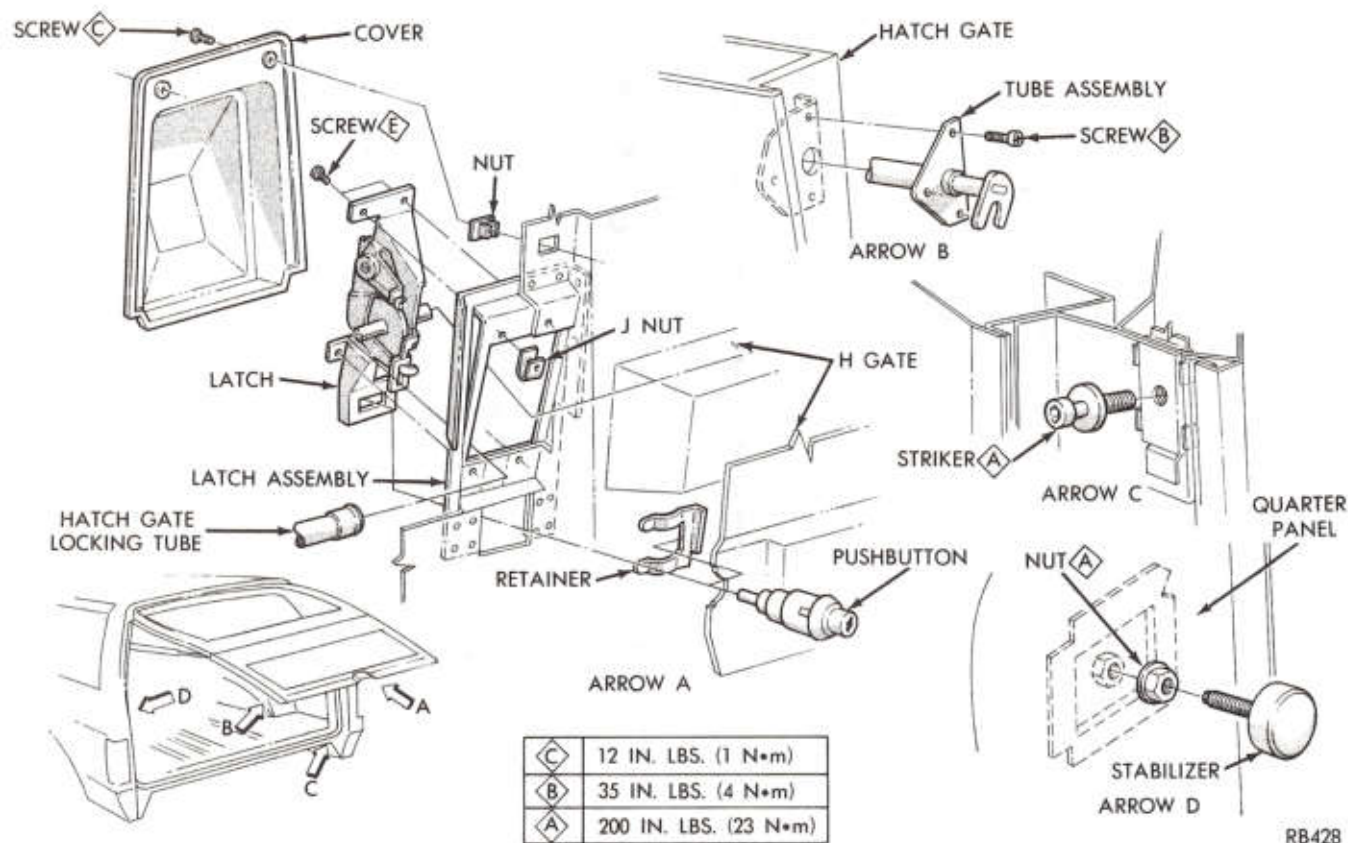

Fig. 16—Liftgate Latch and Striker
LATCH LOCK ASSEMBLY (Fig. 16)
- (3) Remove latch lock cover (Fig. 16)
- (4) Disengage right and left latch tubes (Fig. 16).